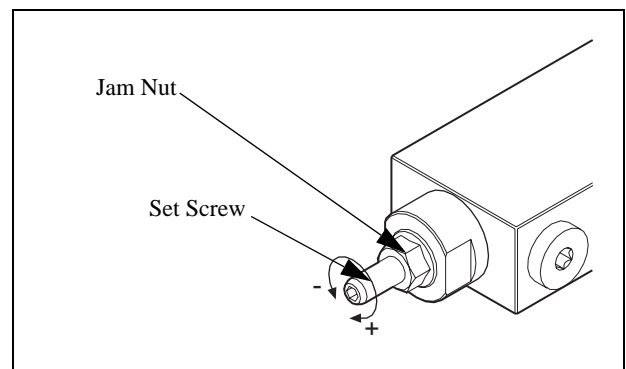

Fig. 23 Adjust the tension pressure
7. If necessary, shut down the machine and adjust the tension pressure at the set screw on the pressure regulating valve. *See Fig. 23.*